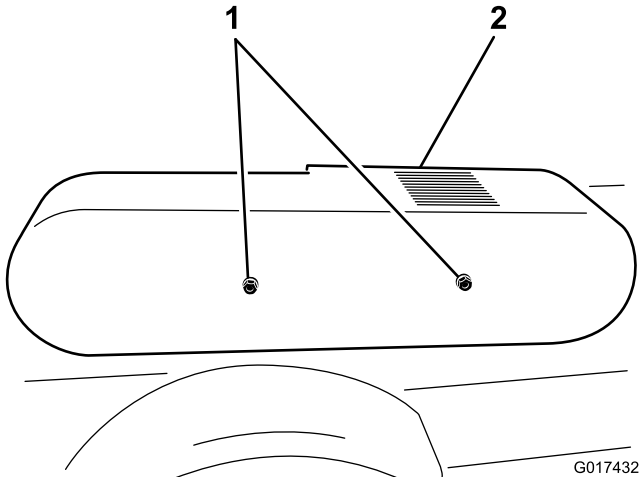

Figure 17
2. Remove the belt guard (Figure 17).